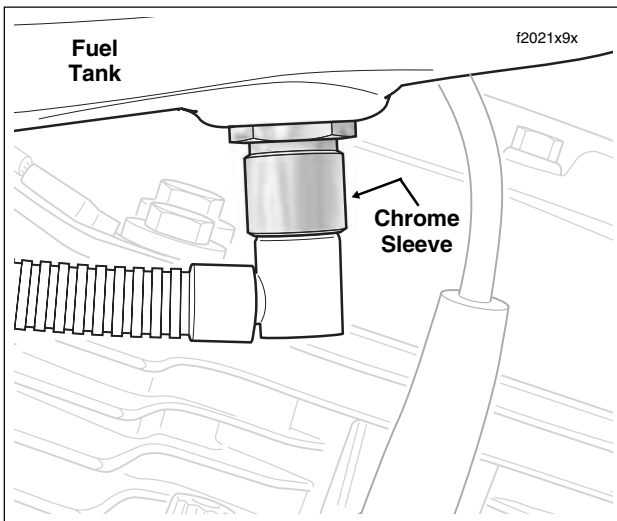

Figure 9-11. Fuel Supply Line Fitting
12. Locate quick-connect fitting on left side of fuel tank. Pull up on chrome sleeve and pull down on fuel supply line fitting to disconnect. See Figure 9-11.
- Locate quick-connect fitting on left side of fuel tank. Pull up on chrome sleeve and pull down on fuel supply line fitting to disconnect. See Figure 9-11.
11. Locate quick-connect fitting on left side of fuel tank. Pull up on chrome sleeve and pull down on fuel supply line fitting to disconnect. See Figure 9-11.